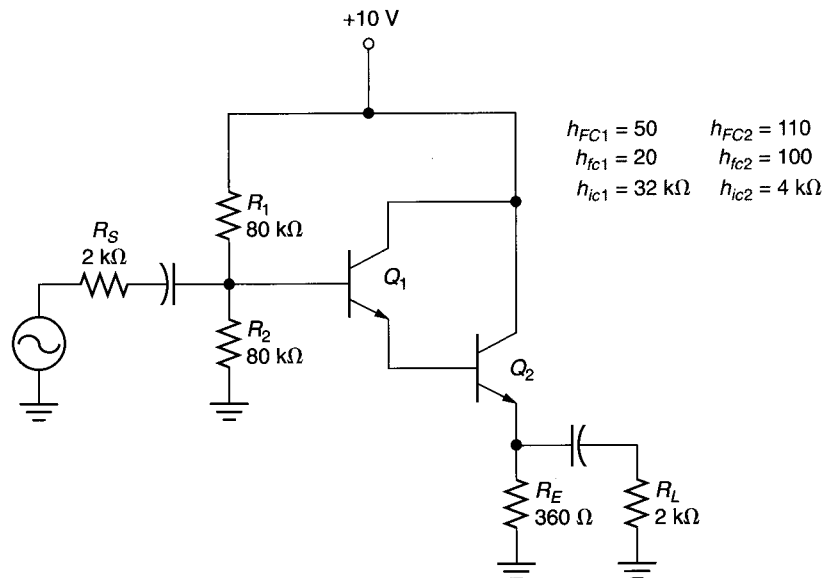

FIGURE 10.27
16. Determine the values of  $I_E$  and  $R_{IN1}$  for the amplifier in Figure 10.27.
18. Determine the values of  $Z_{in}$  and  $Z_{out}$  for the circuit shown in Figure 10.27.
20. Determine the value of  $A_i$  for the circuit shown in Figure 10.27.
22. Perform a “quick” analysis on the amplifier in Figure 10.27.
31. The circuit shown in Figure 10.27 has a dc base voltage ( $Q_2$ ) of approximately 0 V. Discuss the possible causes of the problem.